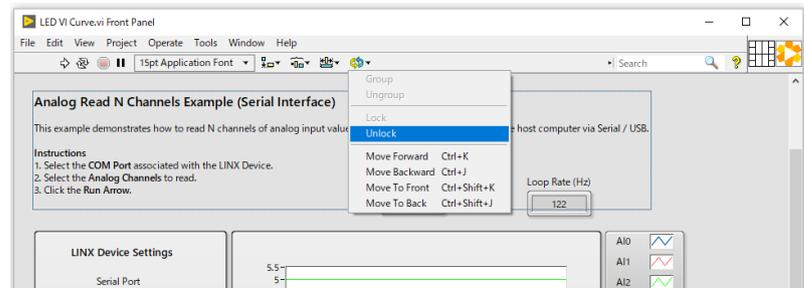
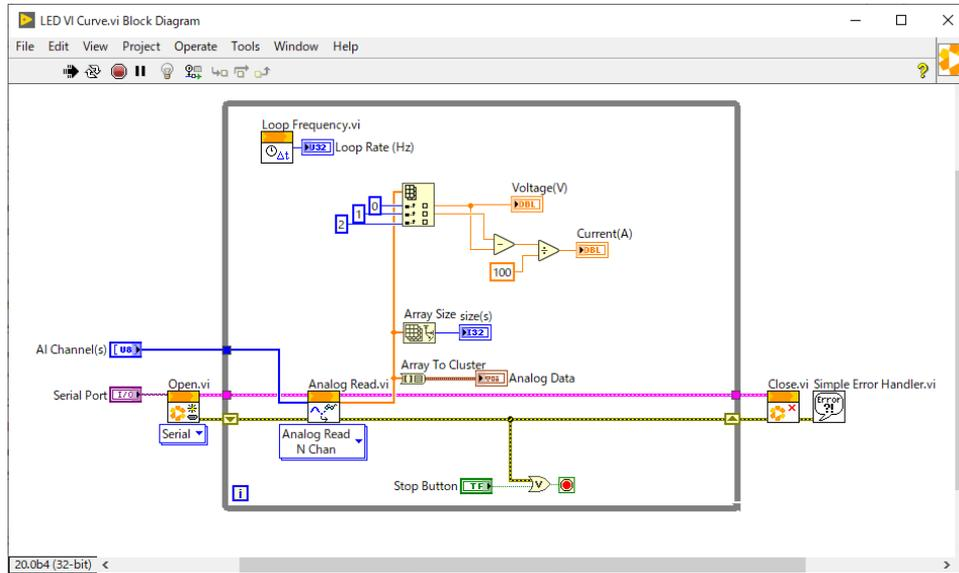

Figure 6-8 Unlock the description text
Figure 6-9 Block diagram to display voltage and current
Save **LINX – Analog Read N Channels.vi** as **LED VI Curve.vi**. We want to delete the text on the front panel but cannot since it is locked. Move the mouse cursor to the top left of the explanation text and drag the mouse over the rectangle to select the textbox. Click on the “Reorder” icon on the toolbar and select “Unlock” to delete the textbox (**Figure 6-8**). Using “Index Array” function in the Array function palette, extract item 0, 1, and 2 from **Analog Ready.vi**. Item 0 is the voltage applied to the LED. Value of Item 0 subtracted from Item 1 is the voltage applied to 100Ω resistor, and divide this voltage by 100Ω to get the current flowing in this circuit (**Figure 6-9**). We are able to calculate the voltage and current applied to LED
Using the "Index Array" function in the Array function palette, extract item 0, 1, and 2 from **Analog Ready.vi**. Item 0 is the voltage applied to the LED. Value of Item 0 subtracted from Item 1 is the voltage applied to 100Ω resistor, and divide this voltage by 100Ω to get the current flowing in this circuit (**Figure 6-9**). We are able to calculate the voltage and current applied to LED